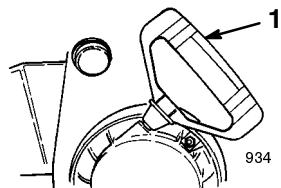

Figure 17
- **Recoil Starter** (Fig. 17)—Pull the recoil starter to start the engine.
7. Grasp the recoil starter handle (Fig. 17) and pull it out slowly until positive engagement results; then pull the handle vigorously to start the engine.